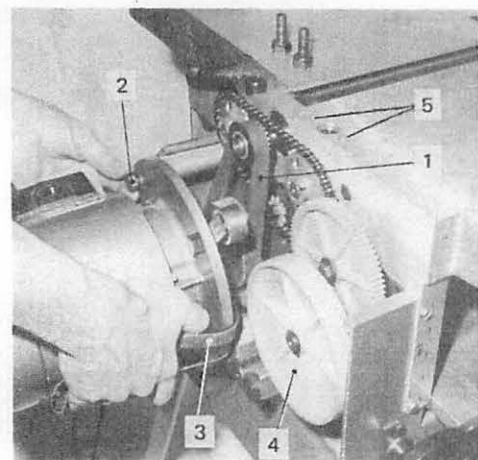

Fig. 4
Take the flat belt which has already been placed on the pulley with your right hand and connect it under the tensioning pulley to the motor housing (Fig.4, No.3).
Now the motor with its toothed-belt pulley is placed on the suspended toothed belt (Fig.4, No.1).
Then the motor is fastened (for the time being without a spanner — Fig.4, No.2) above the motor switch by means of the prepared hexagon bolt and circlip.
6. After the flat belt has been placed on the pulley (Fig.4, No.4) the remaining motor fastening screws are screwed in. Please make sure that the toothed belt is properly tightened, i.e. the motor has to be pressed down as far as the stop and fastened with 3 hexagon bolts and spanner SW 17.
The fence unit, diagram A, No. 2, is mounted with 2 socket head screws on the delivery table (Fig. 4, No. 5).